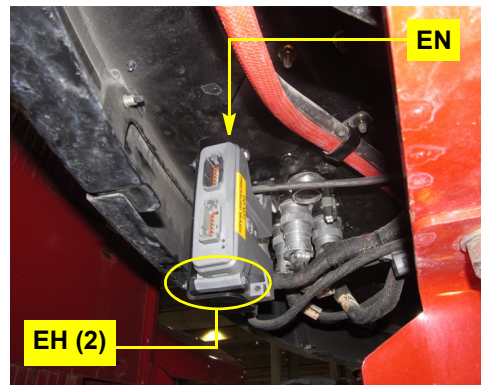

Figure 1b: Steering controller installed
- b. Using hardware **EH** install steering controller **EN** on bracket **EP** with its connector sockets to the right and its pressure washing warning forward (Figure 1b).